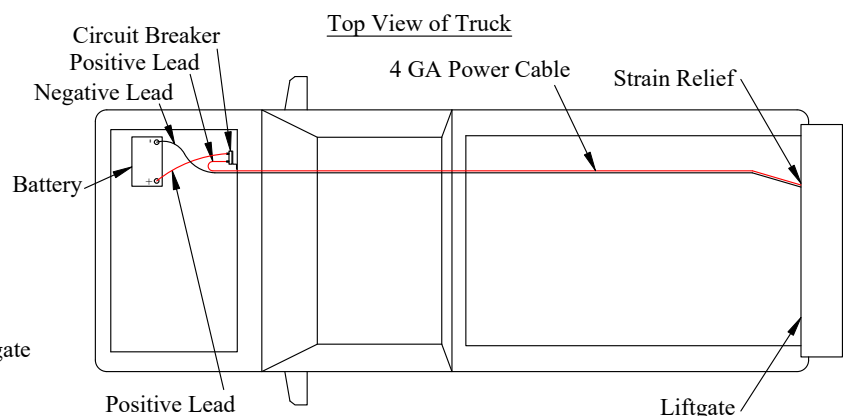

Figure 15: Electrical routing.
3. **Loosen** the strain relief on the back of the liftgate mainframe (Figure 15).
4. **Pull** the power cable (coiled up in the liftgate mainframe) carefully through the strain relief. Leave approximately two (2) inches of slack inside the liftgate mainframe (Figure 15).
6. **Route** the power cables along the frame (Figure 15) to the battery following the *Tommy Gate Recommended Electrical Wiring Guidelines*.